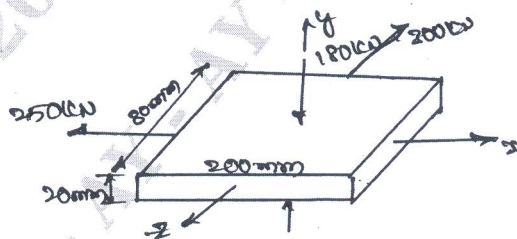

Fig Q2(a)
- 2 a. A block of size 200×80×20mm is subjected to the forces as shown in Fig Q2(a). Determine: